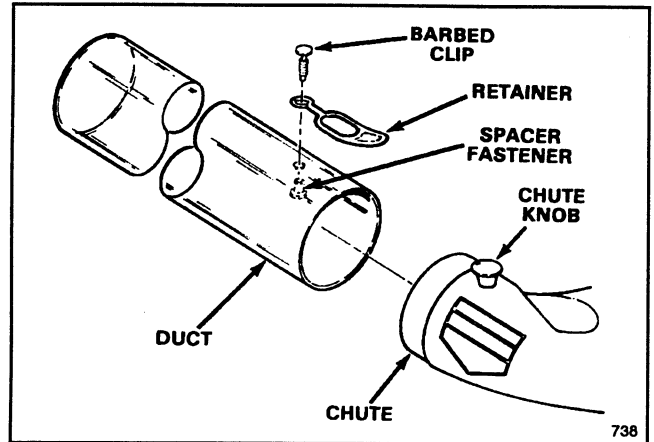

Figure 4
1. Secure retainer to duct with barbed clip and spacer fastener (Fig. 4).
2. Slide duct onto chute assembly, aligning duct retainer with chute knob. Hook retainer onto knob, securing assemblies (Fig. 4).